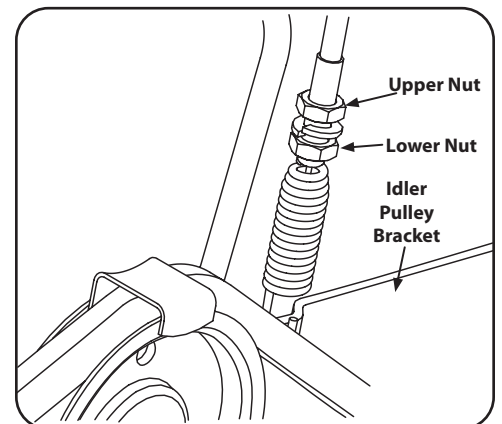

Figure 4-4
2. Locate the spring at the end of the cable. See Figure 4-4.